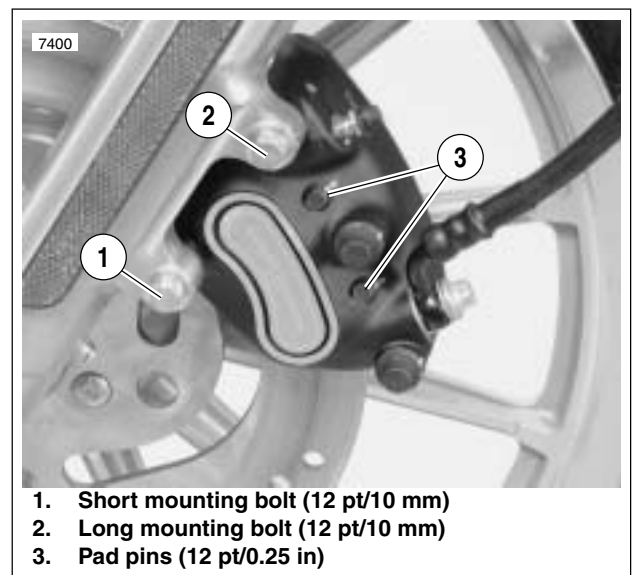

Figure 1-15. Front Brake Caliper (Left Side Shown)
2. See Figure 1-15. Loosen, but do not remove, both pad pins (3) (12 pt/0.25 in.).
- b. See Figure 1-15. Place caliper over brake disc with bleeder valve facing upwards.
- c. Loosely install long mounting bolt (2) (12 pt/10 mm) into top hole on fork leg.
- d. Install short mounting bolt (1) (12 pt/10 mm) into bottom hole on fork leg. Tighten bottom mounting bolt to 28-38 ft-lbs (38.51.5 Nm).